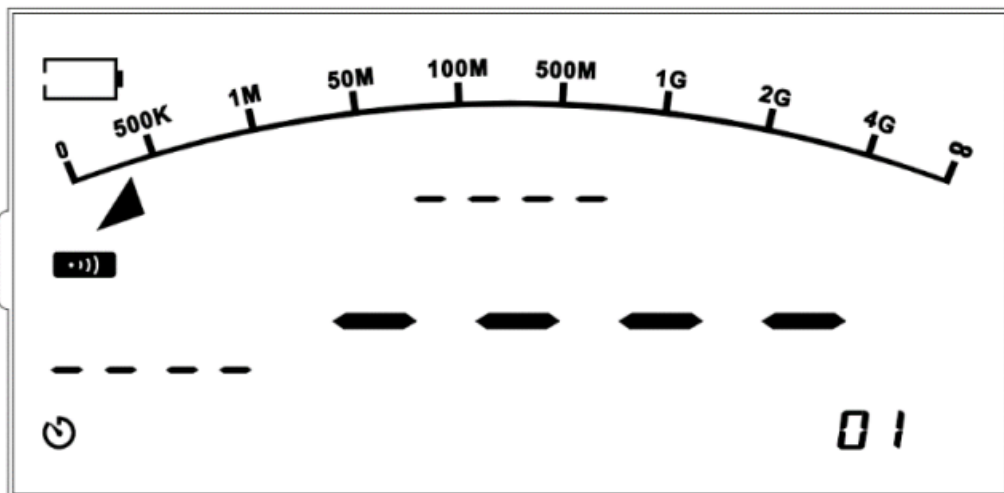

Figure 11.2 Insulation resistance measurement is forbidden
2. If the symbol “” appears and blinks, then the battery power is almost used up, please charge or replace the battery in time. Do not measure insulation resistance and low resistance if the symbol “” is displayed on the LCD, as shown in Figures 11.2 and 11.3.